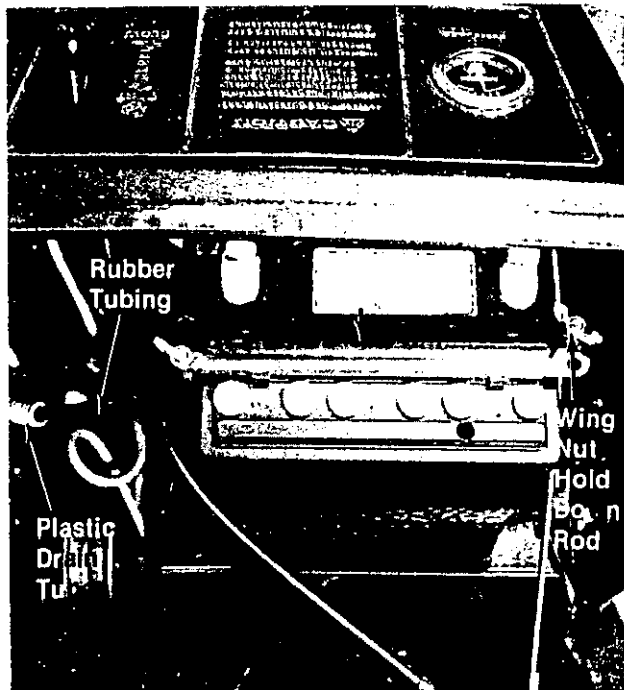

FIGURE 2.
4. Hook the hold down rods through the holes in the battery case and place the hold down over the manifold of the battery and the two hold down rods. (See figure 2.)